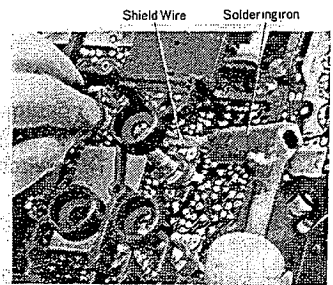

Fig. 16
13. Unsolder the controls, as shown in fig. 16.